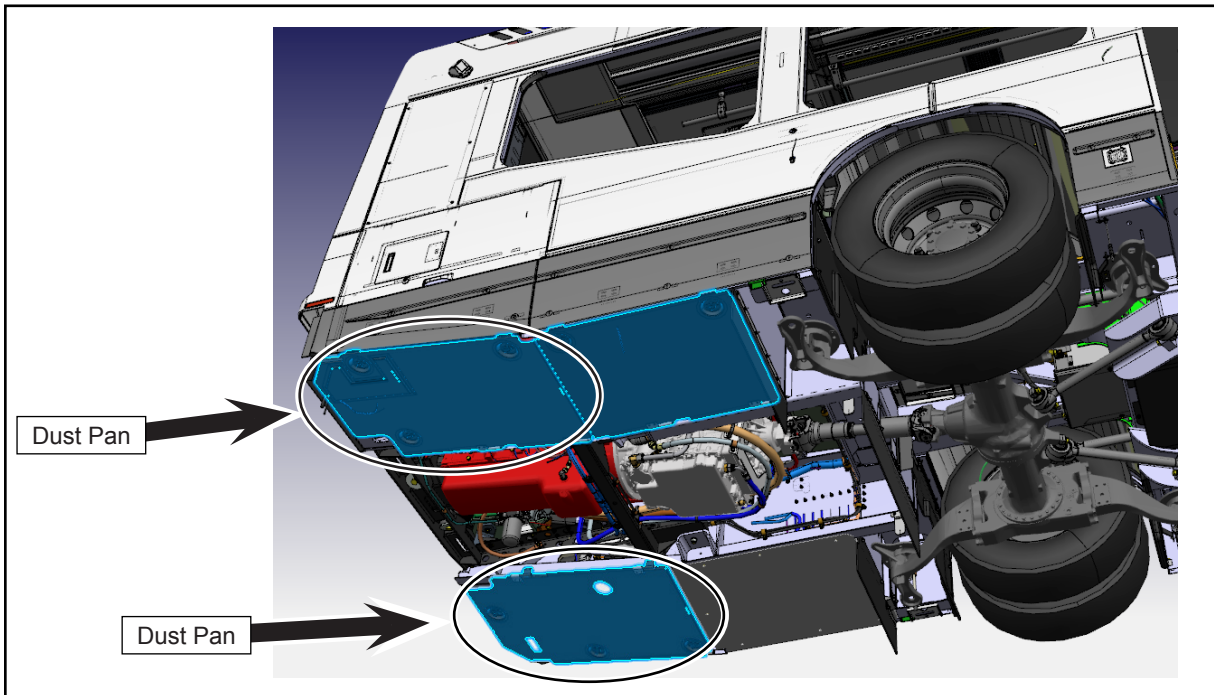

Figure 25 - Remove the Two Dust Pans
- 1.87. Remove the two dust pans (see Figure 25).
- 1.88. Remove the center mud flap (it could be reinstalled for the winter months) (see Figure 25).